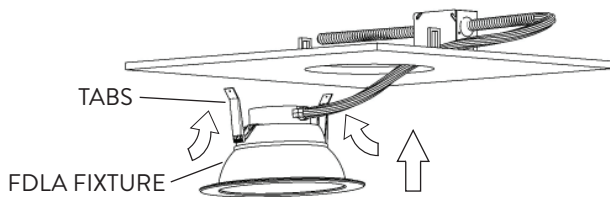

FIG. 5
- 3 Install the FDLA fixture by lifting both retention Tabs upward. Lift the fixture into place (Fig. 5).